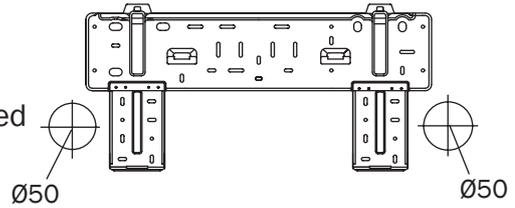

Fig. 3
1. Make the piping hole (Ø50) in the wall at a slight downward slant to the outdoor side (Fig.3).